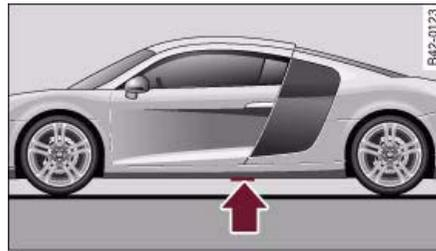

Fig. 128 Changing a wheel: Jacking point
- Look for the **jacking point** under the door sill ⇒ fig. 128.
The jack may **only** be applied at the jacking points shown ⇒ fig. 128. There is *one* jacking point on each side of the vehicle. Do not apply the jack anywhere else.
A trolley jack or lifting platform must **not** be applied at the points shown ⇒ page 183, fig. 128 -arrows- ■